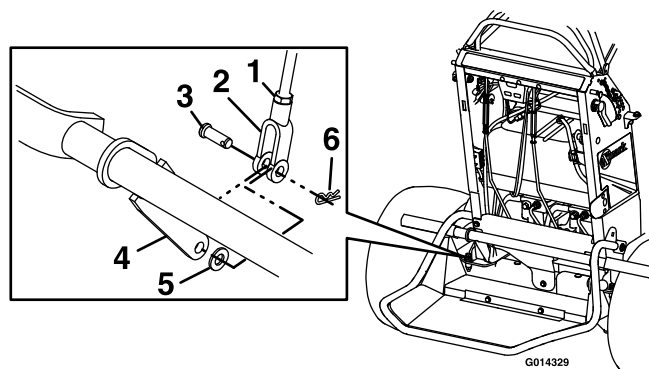

Figure 29
- a. Remove the hairpin, washer, and clevis pin from the lower brake lever and yoke as shown in Figure 29.
8. Check the gap between the brake lever and the switch as shown in Figure 29. The gap needs to be an 1/8 inch (3mm) with the brake engaged.